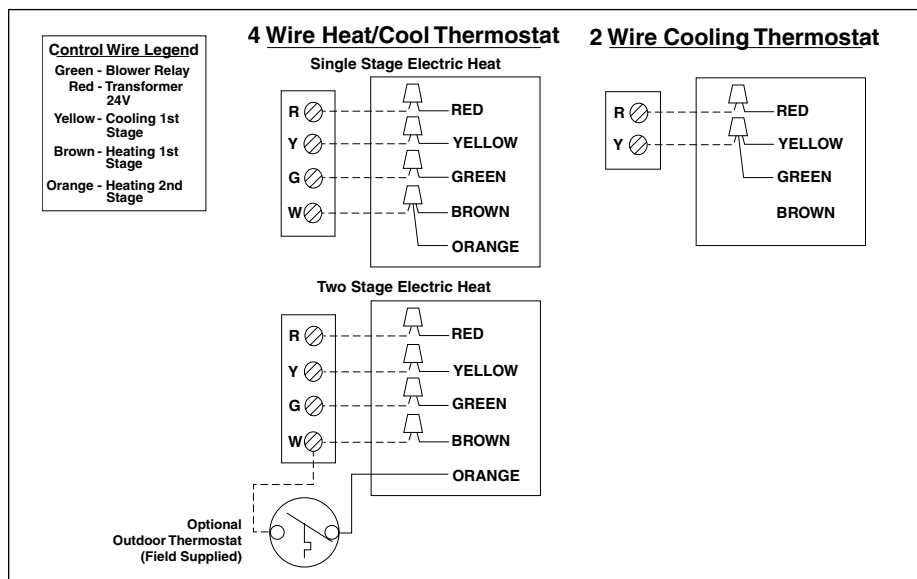

Figure 10. Low Voltage Connections
- b. Connect the control wires to the leads in the low voltage area. (See Figure 10).
- c. **If two stage heating is desired, an optional outdoor thermostat may be installed:** Connect the thermostat to the orange low voltage wire and the W terminal on the indoor thermostat base (See Figure 10). See the thermostat instructions for details on setting the outdoor thermostat.